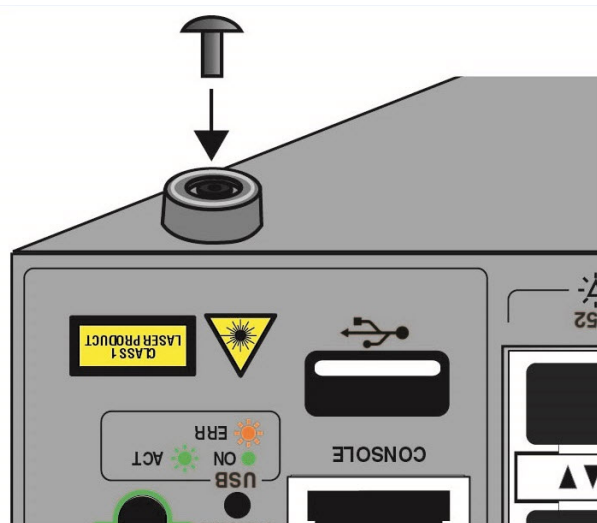

Figure 51. Inserting the Rivet into the Bumper Foot
4. Insert the rivet to secure the bumper foot to the base. Refer to Figure 51.